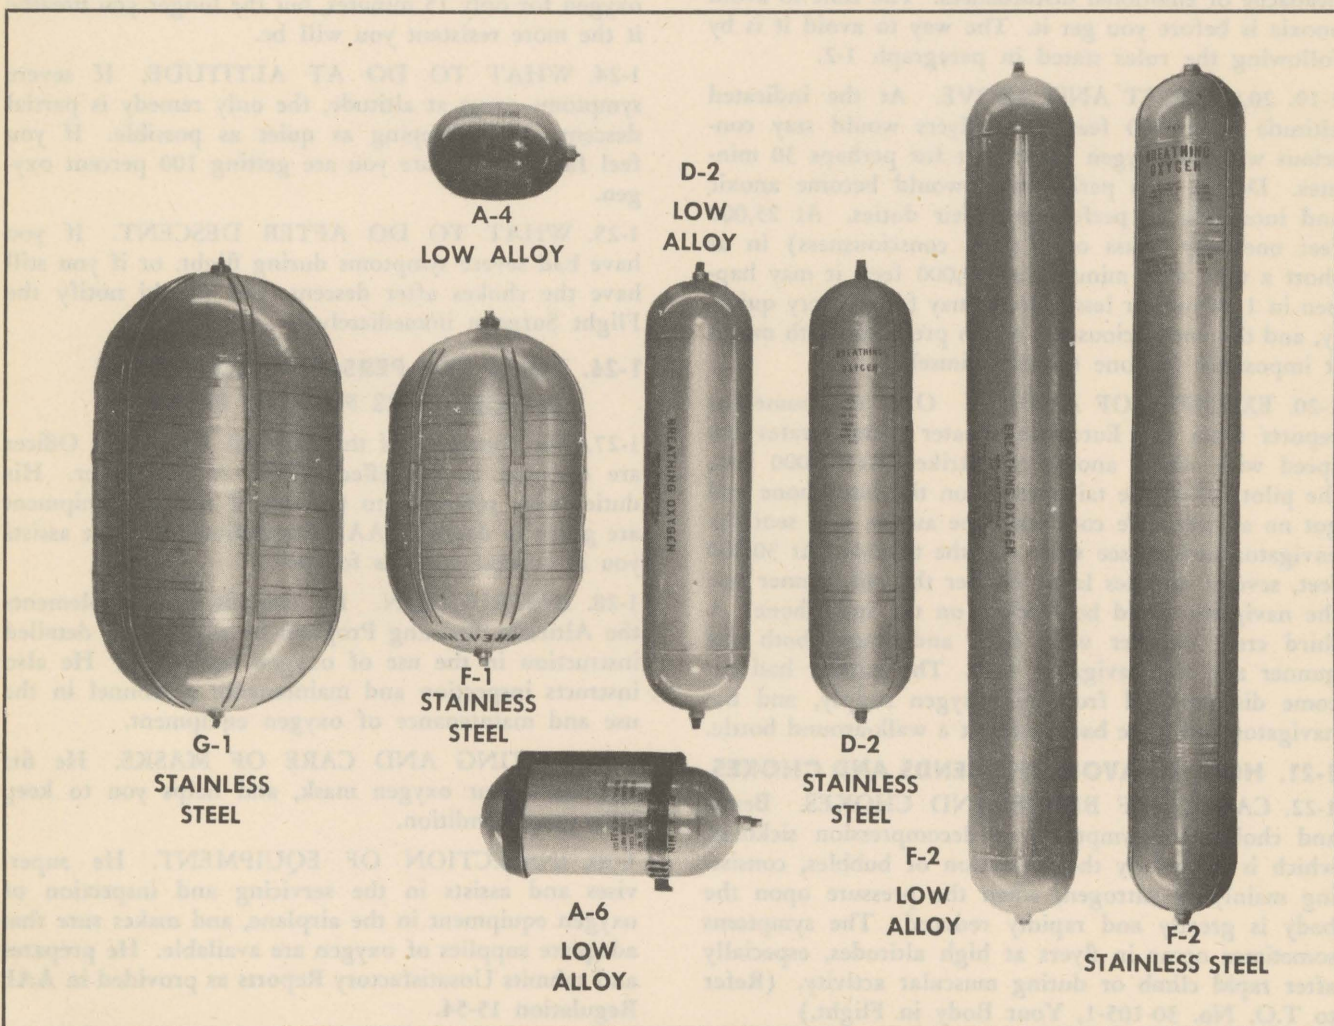

Figure 2-1. Low-Pressure Oxygen Cylinders
**2-5. LOW-PRESSURE CYLINDERS. (See figure 2-1.)**
2-8. TYPES AND CAPACITIES. These are listed in Table I and illustrated in figure 2-1.